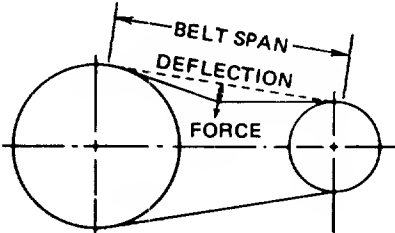

Figure 44. Checking V-Belt Tension By Deflection Force
1. Measure the belt span (refer to Figure 44).
4. Refer to the chart in Figure 44. for the correct "Force Required" if the belts are properly tensioned.
Prior to the initial break-in period, the belts should be adjusted to the upper range of values listed in Figure 44. During this break-in period the belts will stretch somewhat as they seat themselves in the sheave grooves. After the first four hours of "run-in" the belts should be rechecked and if necessary, the tension should be readjusted to that value. This should again be checked after twenty-four hours to make sure they are still within this range.